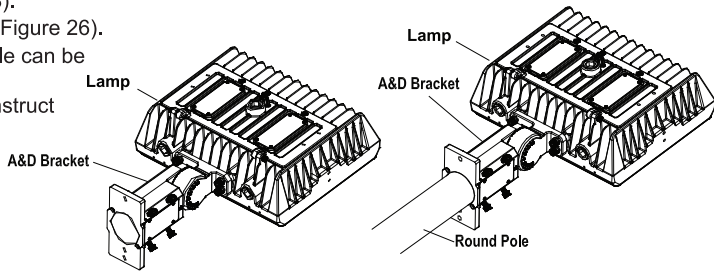

Figure 24
- Step 1: Install the bracket on the lamp (Figure 24).